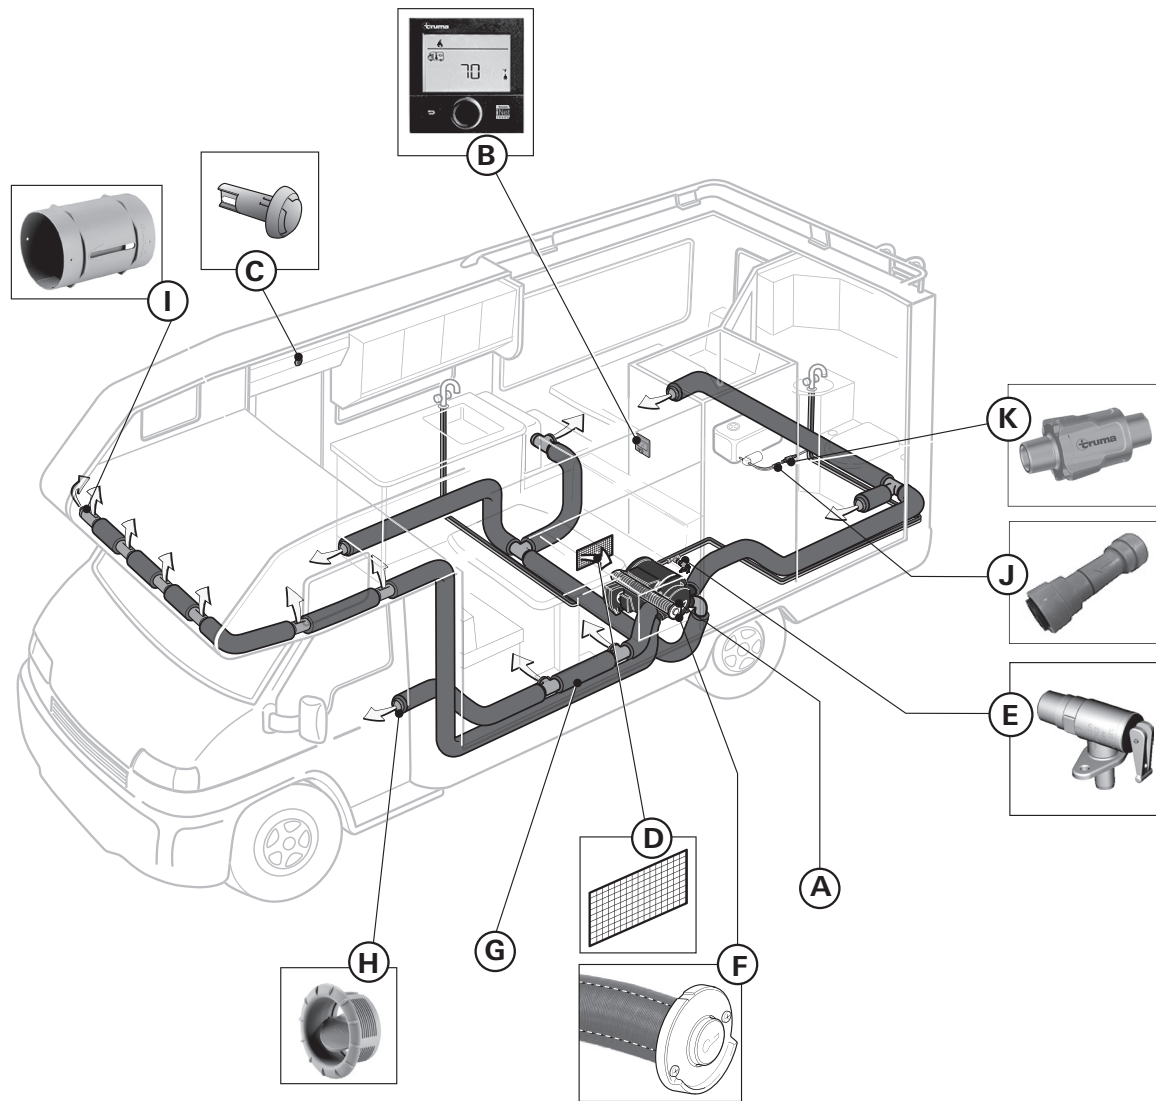
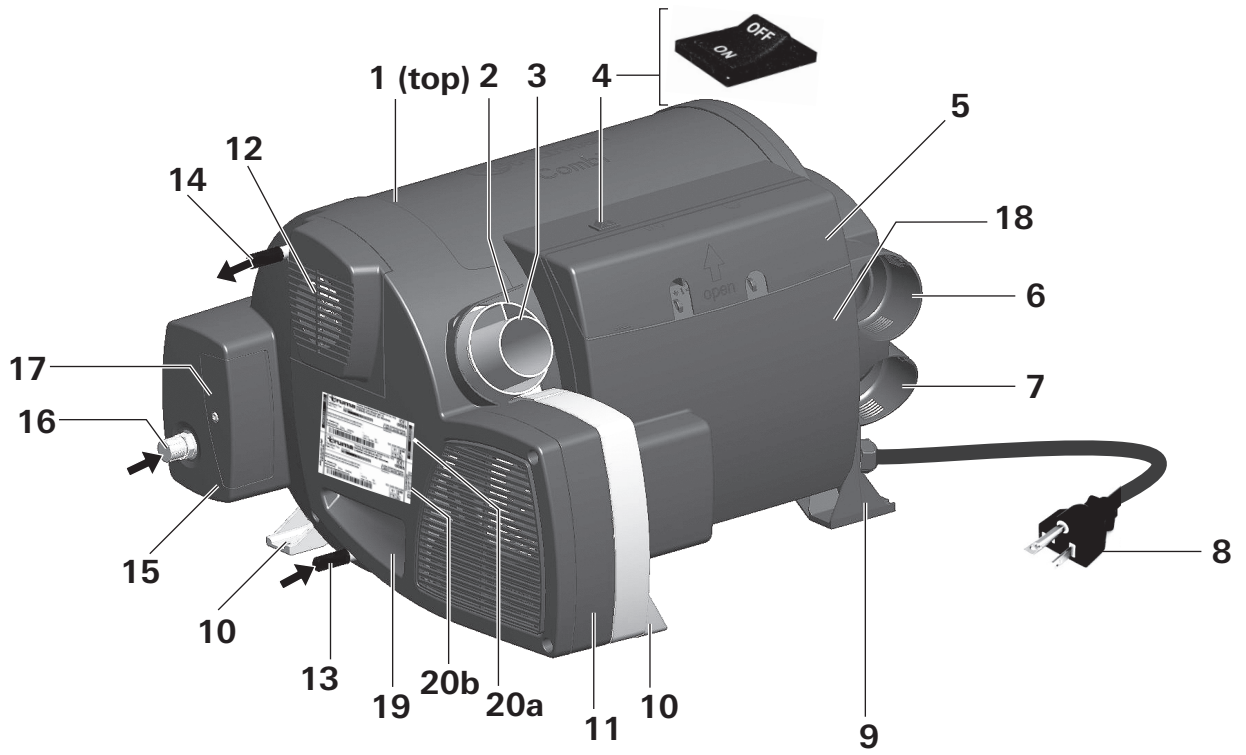

Fig. 1
Fig. 2
- Keep the area in front of the warm air outlets (Fig. 1 – H) free of combustible or heat-sensitive materials. Do not put any material into the warm air outlets.
- In order to avoid overheating of the Combi furnace, keep the air inlets of the Combi furnace (Fig. 2 – 11), the air openings to the area in which the Combi furnace is installed (Fig. 1 – D) and the spacing around the Combi furnace free of obstruction.
- To ensure clean combustion, keep the wall cowl free of obstruction. Do not lean any objects against the wall cowl (Fig. 1 – F).
- Ventilation air can reach 250 °F (121 °C) at the warm air outlets. Always check the air temperature before varying the air throttle position (Fig. 1 – H).
- Never actuate the pressure relief/drain valve (Fig. 1 – E) as long as the Combi furnace is under water pressure and/or still hot.
The switch (Fig. 2 – 4) shuts off the power to the safety gas valve and the gas supply to the furnace. If you want to make sure that the gas supply to the furnace is off, turn the switch to the OFF position.